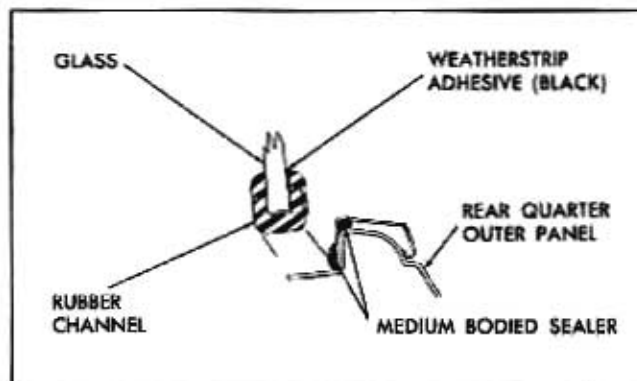

Fig. 3-14 Rear Quarter Stationary Window Sealing
4. Using a plews oiler or any other suitable applicator, apply an approved weatherstrip adhesive (black) between glass and outer wall of rubber channel completely around window. Clean off excess sealer. (Fig. 3-14).